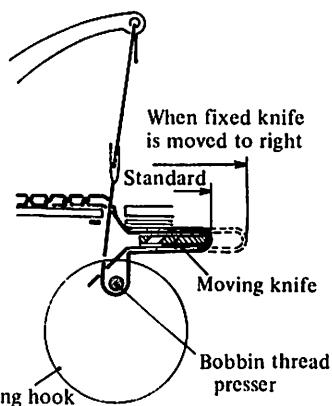

Fig. 25
- ⊙ In that case, the length of the remaining thread of needle thread and the bobbin thread not only gets longer by the distance the fixed knife has moved, but because the timing of the trimming also is delayed which makes the length of the thread at the tip of the needle eye much longer (Fig.25)